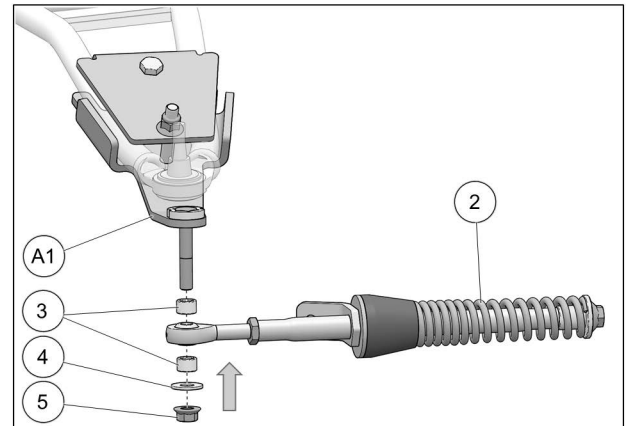

Fig. 22
- Attach the stabilizing rod (2) to the anchor bracket (A1), using the two spacers (3), washer (4), and nut (5). Torque to 70 Nm [52 lb•ft]. Refer to Fig. 22